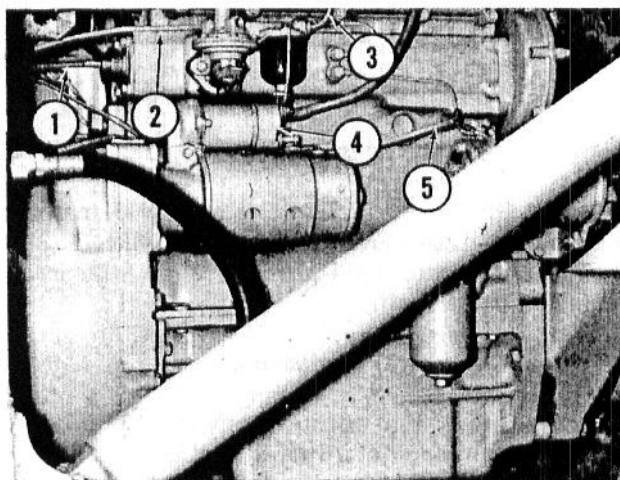

Fig. 14 — RIGHT-HAND VIEW OF DIESEL ENGINE
18. Separate the diesel engine from the transmission case as follows: Refer to Figs. 14 and 15.